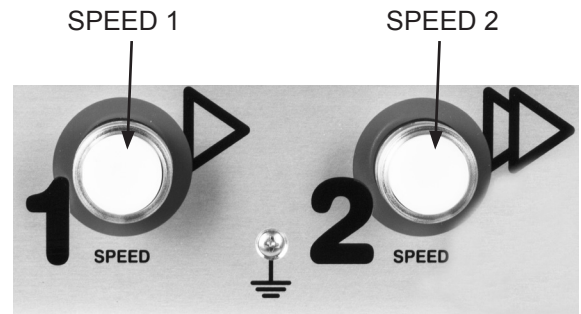

Figure 9-2.
- Press the SPEED 1 button to pre-mix the ingredients at low speed. See Figure 9-2.